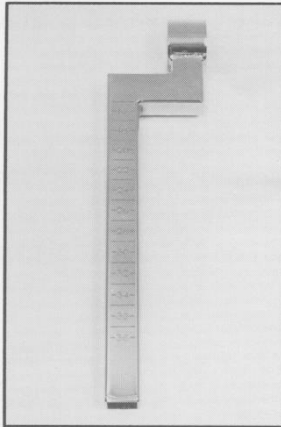

Figure 16A – Orthotron II Anti-Shear Accessory input adapter
4. Attach the appropriate input adapter (determined by the CYBEX equipment being used) to the input shaft of the dynamometer of actuator being used. See Figs. 16A and 16B.